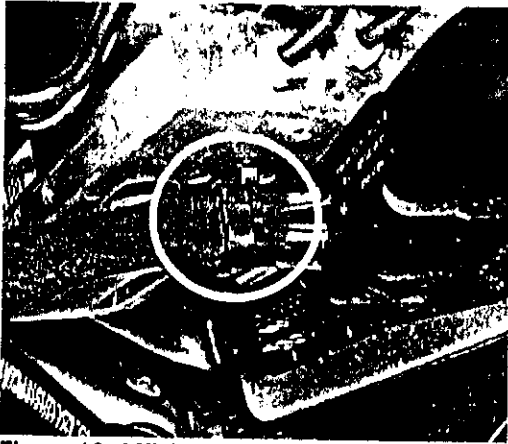

Figure 12: Affixing the SBC wiring harness to the cap of the SBC connector housing
16. Affix the SBC wiring harness **without** the ground wiring harness lines to the SBC connector housing cap using a new cable tie (see Figure 12).